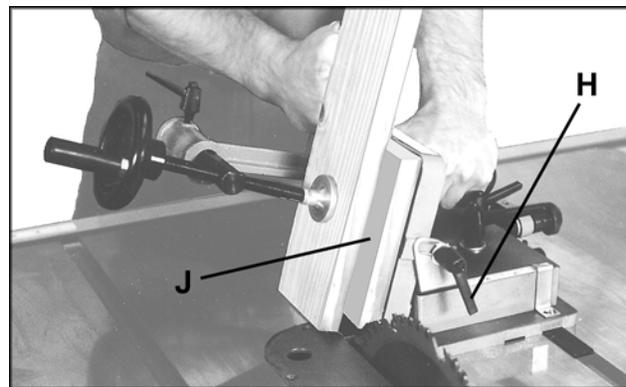

Figure 11
Figure 11 shows an angle tenon procedure with the fence tilted. Loosen lock lever (H) to tilt the fence.